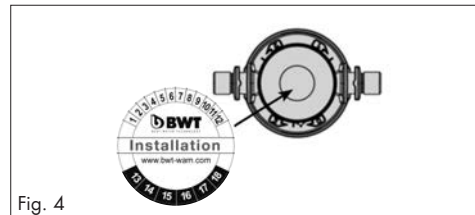

Fig. 4
7. Mark the included label with the installation date (month/year) and stick the label on top of the filter head (see Fig. 4).